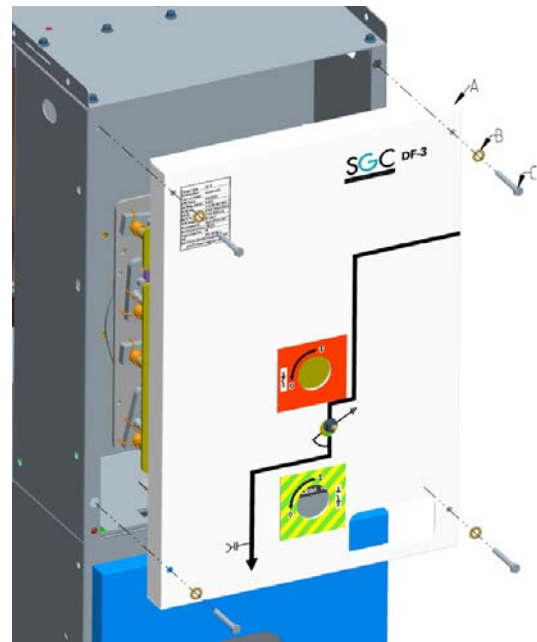

Figure 6: Disassembling of the front panel of the DF-3 cubicle
- Remove the front panel of the second cubicle (Figure 6):